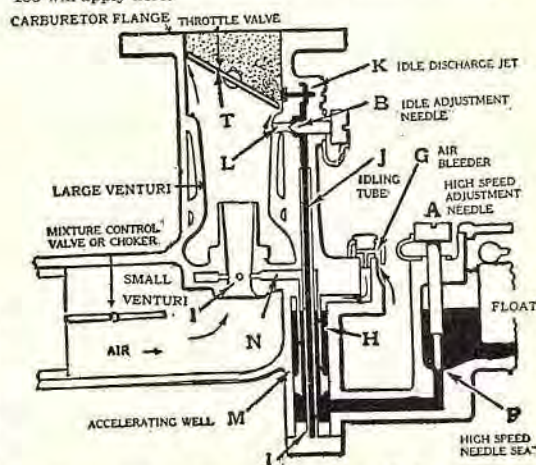

Fig. 28. Idling position. When idling, all the gasoline is drawn up the tube (J), through the idling jet (K) and sprayed above the throttle valve (T).
The level of the gasoline in the float chamber of the carburetor is maintained constant by the float and the valve which is operated by it. From the float chamber the gasoline flows to the accelerating well (M) through the needle valve (F) (Fig. 28) which is adjustable.